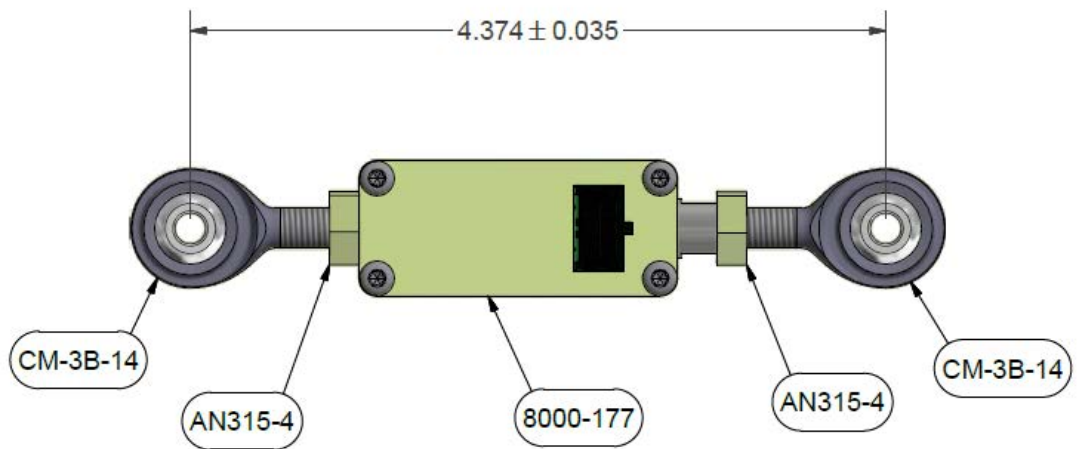

Figure 2-18
- 1.31. Install large rod end bearings (P/N 2510-052) in the PMA link sensor (P/N 8000-177) as shown in Figure 2-18. Apply blue threadlocker (Loctite 242 or equivalent) to rod ends and torque AN315-4 nuts to 50-70 in-lb.